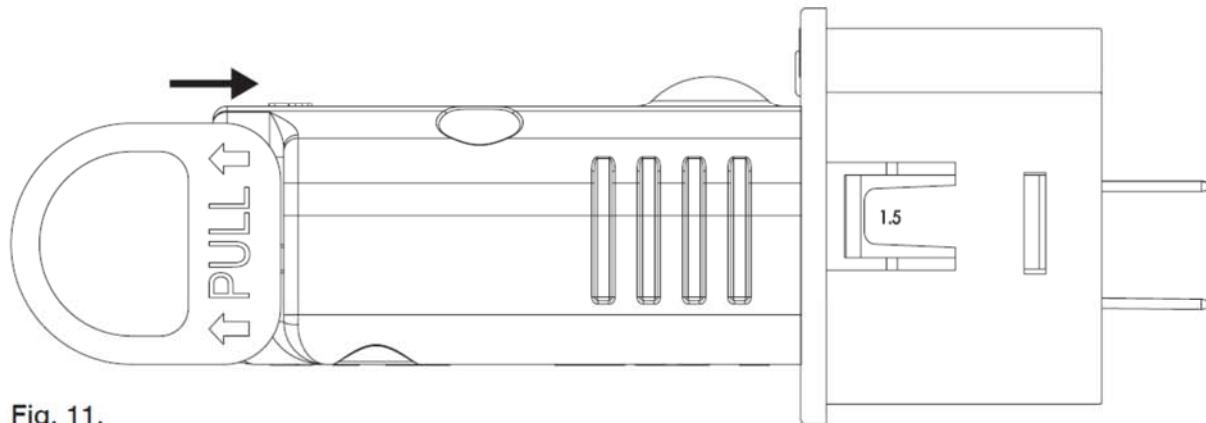

Fig. 11.
2. Release the handle to 'lock' the connector in place (Fig. 11.).